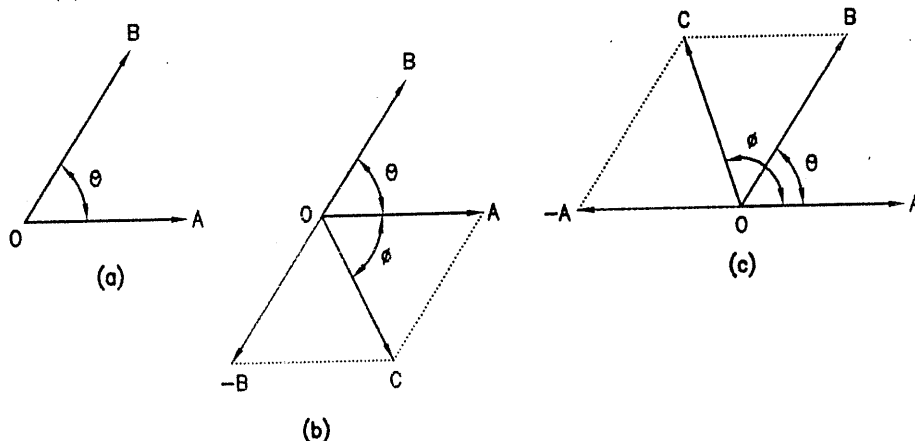

FIG. 2.21 : SUBTRACTION OF ALTERNATING QUANTITIES
- In figure 2.21(a) vectors OA and OB are shown.
- It is desired to subtract vector OB from vector OA. Vector OB is reversed and added to OA as shown in figure 2.21(b).
- If however vector OA has to be subtracted from OB, OA is reversed and added to OB as shown in figure 2.21 (c). The resultant OC makes an angle ϕ with the reference.